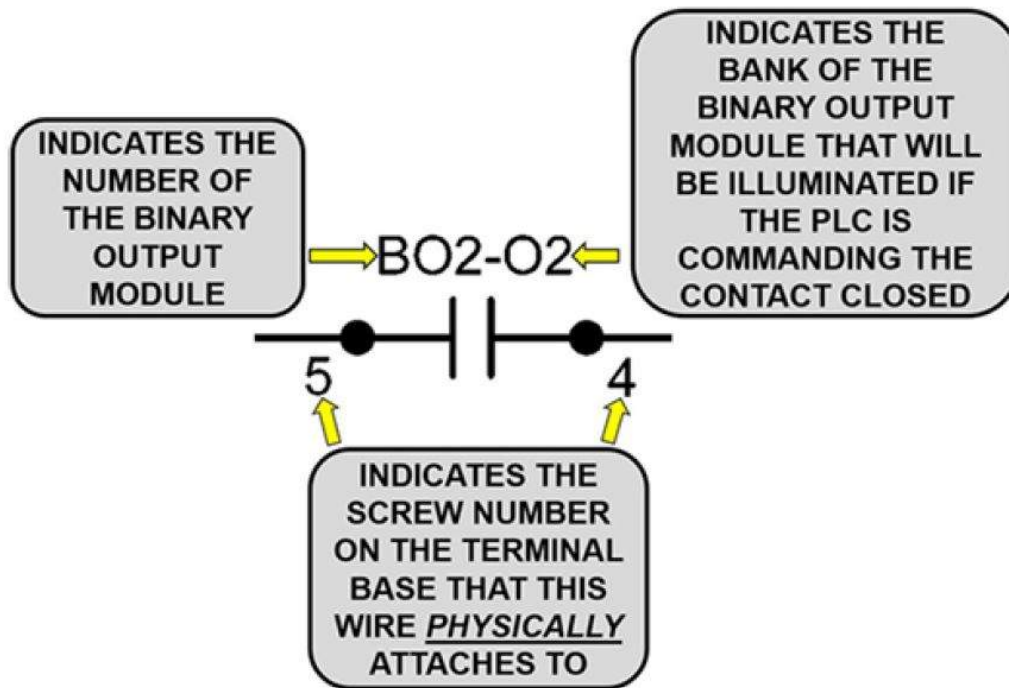

Figure 2–20. Binary output module on a schematic.
BO modules are labeled nearly the same way on a schematic as a BI module, but the numbers that refer to the screw number on the terminal base come before and after the contact. Refer to figure 2–20 below as you read the explanation of how a BO is labeled on a schematic.
The analog input/output (IO) module (fig 2–21) provides a varied or proportional means for the PLC to monitor and control the system and requires 24 VDC power to operate. Recall that the BI and BO modules were binary, meaning that a signal was either being sent or it was not being sent. An analog module is different because it can operate throughout an entire range of voltages.